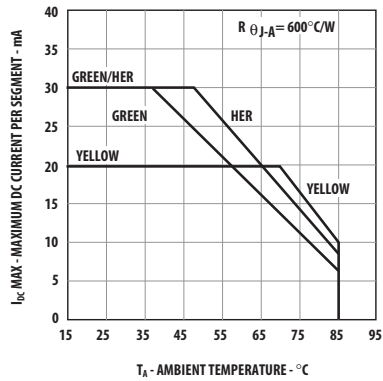

Figure 9. Maximum Allowable DC Current vs. Ambient Temperature. $T_{JMAX} = 100^{\circ}$ C.
6. Derate maximum DC current for HER above $T_A = 48^\circ\text{C}$ at 0.58 mA/ $^\circ\text{C}$, Yellow above $T_A = 70^\circ\text{C}$ at 0.66 mA/ $^\circ\text{C}$, and Green above $T_A = 37^\circ\text{C}$ at 0.48 mA/ $^\circ\text{C}$. See Figure 9.